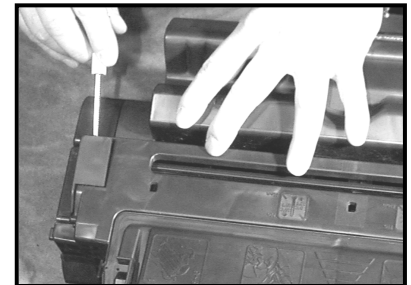

Figure 1
1. Use a small, flat head screwdriver to gently pry up the base of the cartridge clips (located on each side of the cartridge (fig. 1)).